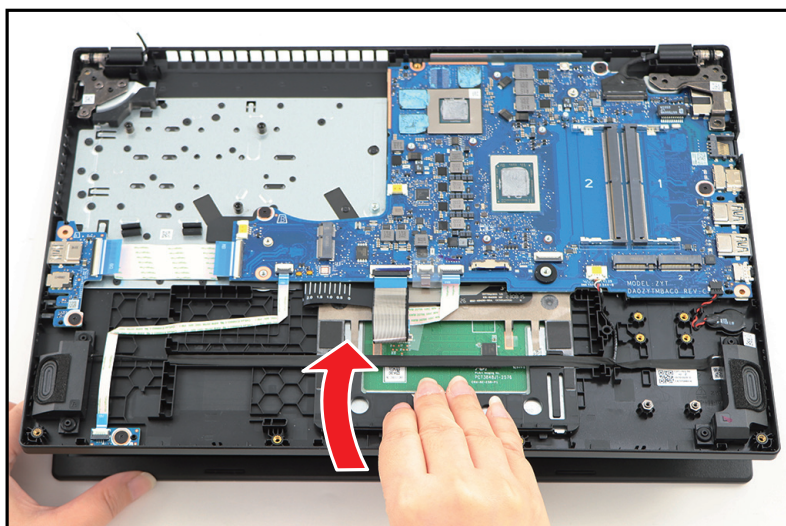

Figure 1-33. Mainboard Removal
2. Lift the top assembly until it is fully open (Figure 1-33).